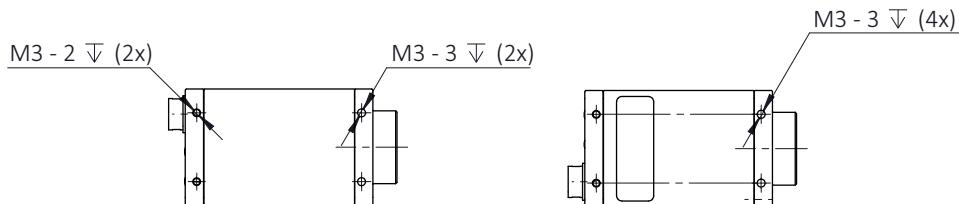

Figure 1: Mounting threads on top and bottom of housing
- It is important to consider the maximum intrusion depth of the M3 mounting holes (see Figure 1). Using longer screws can damage the threads or bottom plate and will reduce the strength of the joint.